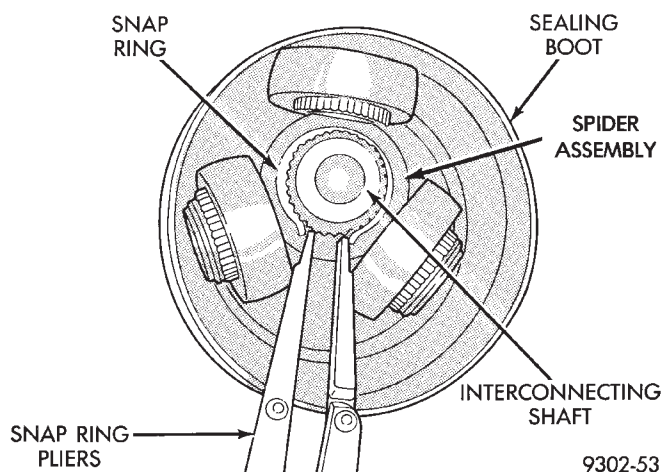
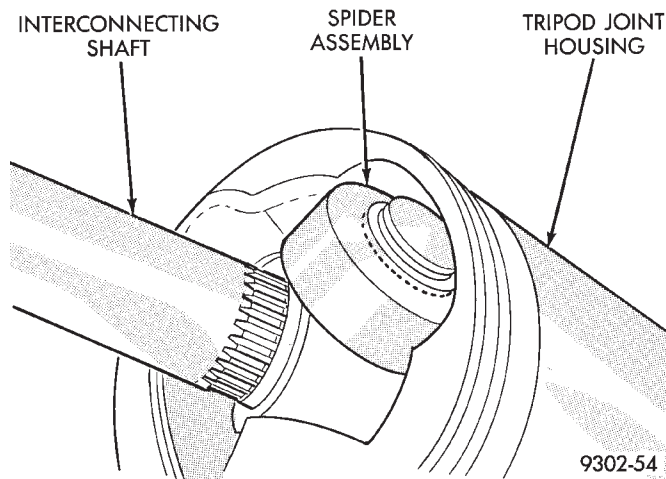

Fig. 27 Spider Assembly Retaining Snap Ring Installation
Fig. 28 Spider Assembly Installed In Housing
(2) Install the spider assembly onto the interconnecting shaft. Spider assembly must be installed on interconnecting shaft far enough to fully install the retaining snap ring. If spider assembly will not fully install on interconnecting shaft by hand, it can be installed by tapping the spider body with a brass drift. **Do not hit the outer tripod bearings in an attempt to install spider assembly on interconnecting shaft.**
(3) Install the spider assembly to interconnecting shaft retaining snap ring into groove on end of interconnecting shaft (Fig. 27). Verify the snap ring is fully seated into groove on interconnecting shaft.
(4) Distribute 1/2 the amount of grease provided in the seal boot service package (DO NOT USE ANY OTHER TYPE OF GREASE) into tripod housing. Put the remaining amount into the sealing boot.
(5) Slide the spider assembly and the interconnecting shaft into the tripod joint housing (Fig. 28).